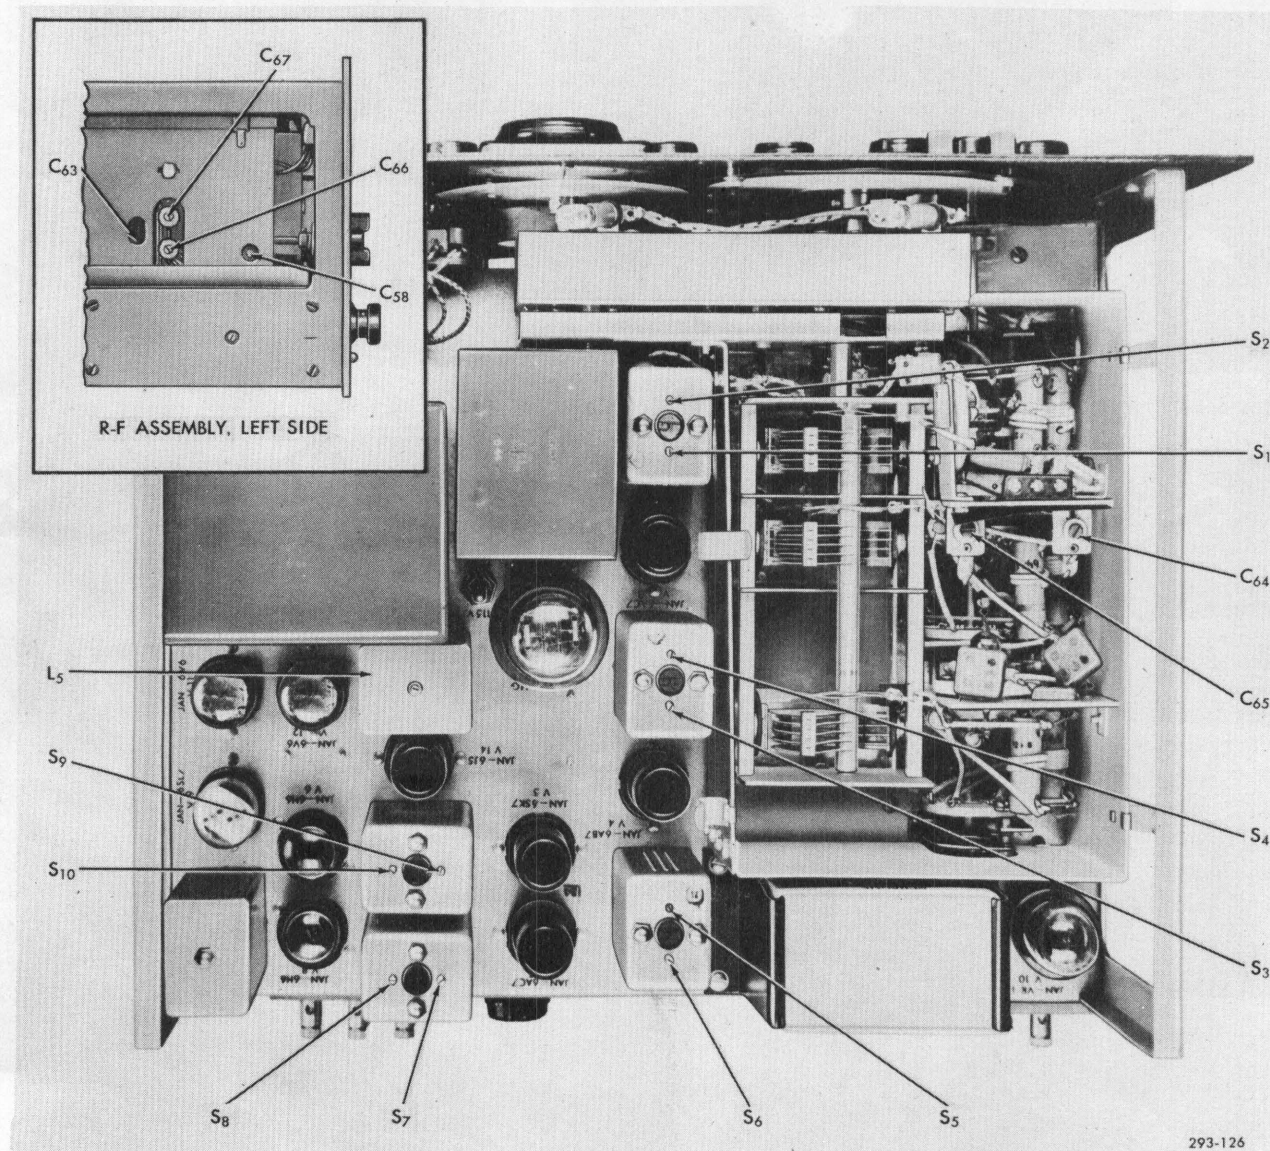

Figure 7-6: Top View of Chassis Showing Adjustment Points.
2. Refer to Figure 7-6; locate the trimmer capacitor (C66) and adjust it for a maximum audio output.
- 2. With the aid of Figure 7-6, locate the trimmer capacitor (C58) and adjust it for a maximum audio output.
- (i) With the aid of Figure 7-6, locate the trimmer capacitor (C63) and adjust it for a maximum audio output.
- (k) Using the "TUNING" control, tune the generated signal in on the receiver. If the calibrated dial indicates 30 megacycles, go on to step (1). If the calibrated dial does not indicate 30 megacycles, and if setting the calibrated dial at 30 megacycles results in an appreciable decrease in the audio output, do the following:
- 2. With the aid of Figure 7-6, locate the trimmer capacitor (C67) and adjust it for a maximum audio output.